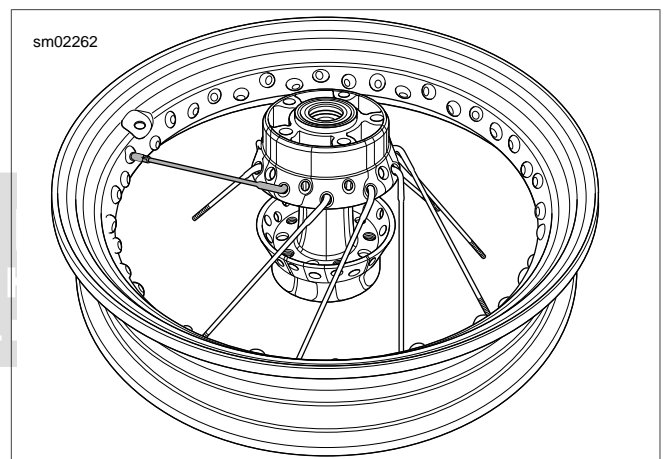

Figure 2-22. Brake Side Up: Start First Spoke of Bottom Row
3. See Figure 2-22. Using any **lower** row spoke, place the first spoke into the rim hole to the left of the valve stem hole on the upper half of the rim centerline.